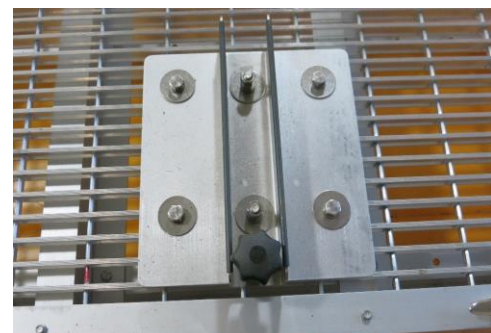

Figure 15. Bracket on Floating Deck for Dual PAR SUNA Mount
- 9. Inspect dual PAR SUNA bracket (see Figure 15) and mount. Remove biofouling in the cage using water and a dry brush. Replace zip-ties, as appropriate. See Section